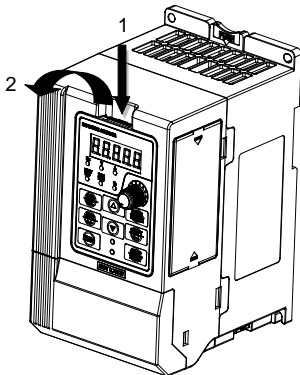

Fig.3-3 (a) Remove keypad
- d. Assemble of Terminal Cover: See following Figure: 3-3(d)Place the upper buckle of the terminal cover in the slot of upper housing in Direction 1, and then press the two lower buckle of terminal cover in Direction 2 until it clicks into right place of upper housing. , then Tighten the screws as shown in Fig.3-3